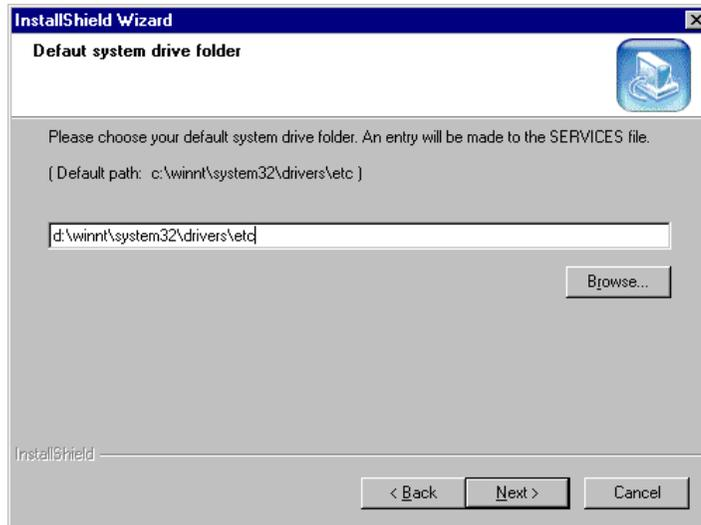

Figure 65. Choose path to the system folder
1. Run the distribution file **TDP_R3_V3.exe**. A screen as shown in Figure 65 will appear: